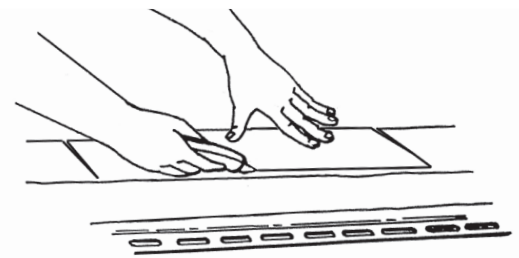

Figure 21
- With a utility knife or scoring tool, score the vinyl face up with medium pressure and snap it in half. It is not necessary to cut all the way through the vinyl (Figure 21).